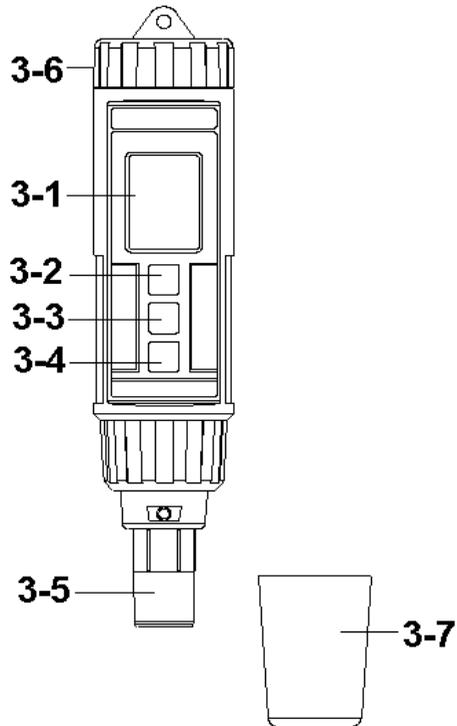
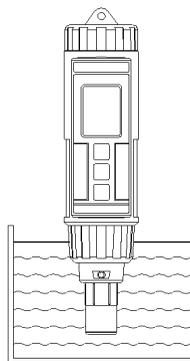

Fig. 1
Fig. 2
1) Move the " Protection cover " ( 3-7, Fig. 1 ) away from the " Probe head " ( 3-5, Fig. 1 ).
Power on the instrument by pushing the " Power Off/On button " ( 3-2, Fig. 1 ).
The " Display " ( 3-1, Fig. 1 ) will show the " O2% " and the " Temp. " value as example :
Press the " HOLD button " ( 3-3, Fig. 1 ) once, the " Display " ( 3-1, Fig. 1 ) will show the " Hold " indicator, then following press the " REC button " ( 3-4, Fig. 1 ) once, the Display will show :
- 2) Press the " Unit button " ( 3-3, Fig. 1 ) continuously at least two seconds, the display indicator will change from " % O2 " change to " mg/L ", now the meter is ready for Dissolved Oxygen ( DO ) measurement.
- 3) \* Immersed the " Probe head " ( 3-5, Fig. 1 ) to the measured liquid ( sample ) completely in order for the probe to be influenced by the automatic temperature compensation circuit, refer to Fig. 2, page 7.
- Install " Probe head protection cover " ( 3-7, Fig. 2 ) into the " Probe head " ( 3-5, Fig. 2 ).
- b. Press the " REC button ( °C, °F button ) " ( 3-4, Fig. 1 ) continuously at least two seconds, the Temp. unit will change from " °C " to " °F " or " °F " to " °C " with default, then release the finger from the button.
During the measurement, press the " Hold button " ( 3-3, Fig. 1 ) once will hold the measured value & the LCD will display a " HOLD " symbol.
- \* The data record function records the maximum and minimum readings. Press the " REC button " ( 3-4, Fig. 1 ) once to start the Data Record function and there will be a " REC " symbol on the display.
- a) Press the " REC button " ( 3-4, Fig. 1 ) once, the " REC MAX " symbol along with the maximum value will appear on the display.
If intend to delete the maximum value, press the " Hold button " ( 3-3, Fig. 1 ) once, the display will show the " REC " symbol only & execute the memory function continuously.
- b) Press the " REC button " ( 3-4, Fig. 1 ) again, the " REC MIN. " symbol along with the minimum value will appear on the display.
If intend to delete the minimum value, press the " Hold button " ( 3-3, Fig. 1 ) once, then the display will show the " REC " symbol only & execute the memory function continuously.
- 2) To replace the battery, rotate and remove the " Battery Cover " ( 3-1, Fig. 1 ), take out the old batteries, install new batteries :